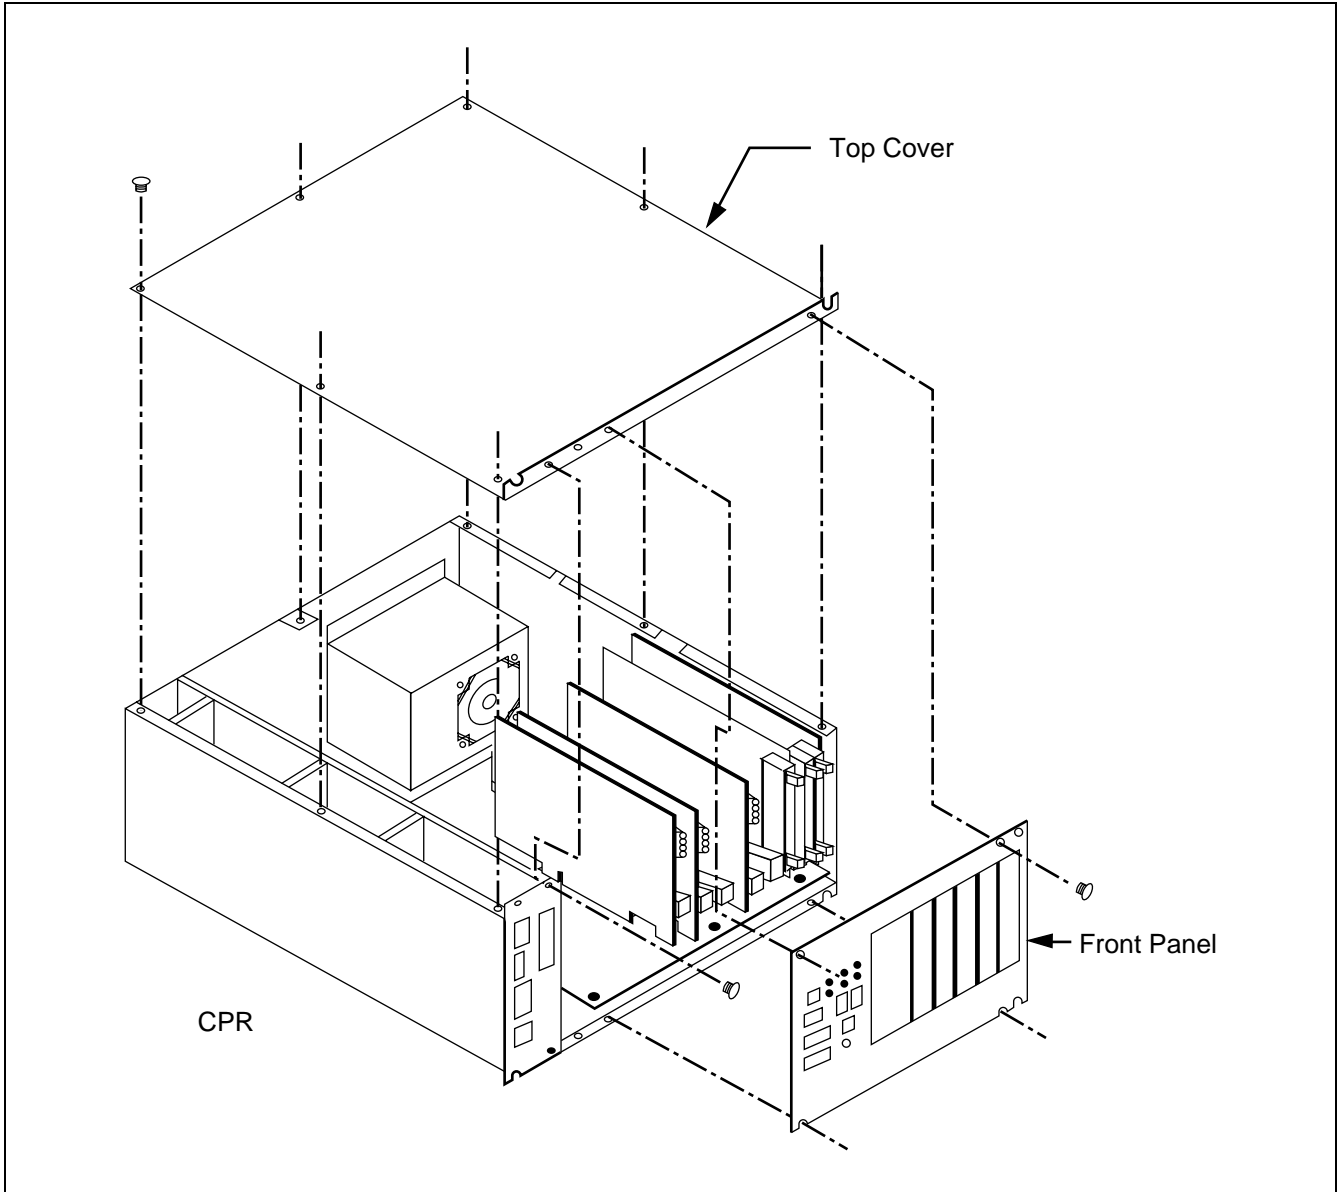

Figure 4-6 Reattachment of CPR Top Cover and Front Panel
- (3) Reattach the top cover by fastening the removed eight screws. Then, reattach the front panel by fastening the removed four screws. Refer to Figure 4-6).